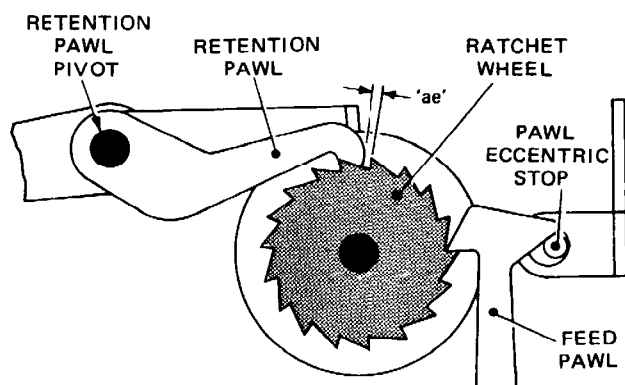

Fig. 4.31 ANSWER-BACK RATCHET FEED MECHANISM (REAR VIEW)
- 34.1 Depress the HERE IS key and turn the camshaft until the feed pawl, Fig. 4.31, is in contact with its eccentric stop. Check that there is now a clearance of at least 0.005 inch (dimension 'ae') between the retention pawl and a tooth in the ratchet wheel.